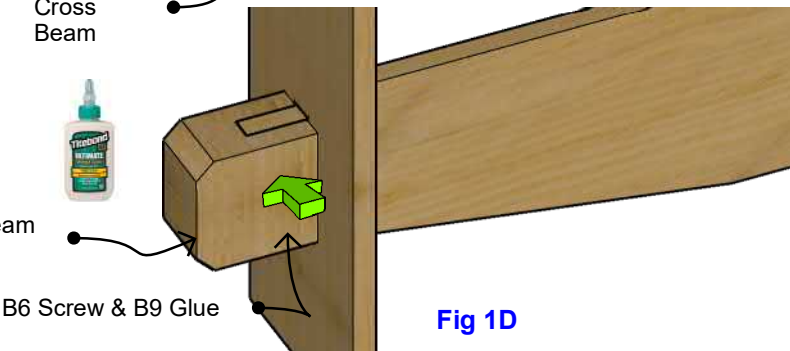

Fig 1D
**Fig 1D End Caps:** Using **B9 Exterior Wood Glue** smear a liberal coating onto ends and sides of ends of each **A8 Cross Beam** and while pushing **A7 Leg** into shoulder of Cross Beam force fit a **A10 End Cap** over End of Cross Beam and hold in Place with a **B6 Screw** while glue dries. End Caps lock Cross Beams into legs. Repeat for all for 4 End Caps.